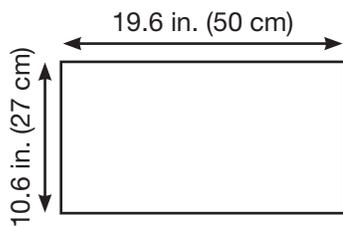

Figure 1A
- Measure and cut an opening at the bottom of the cabinet to fit the motor box of the range hood (see Figure 1A, 1B or 1C).